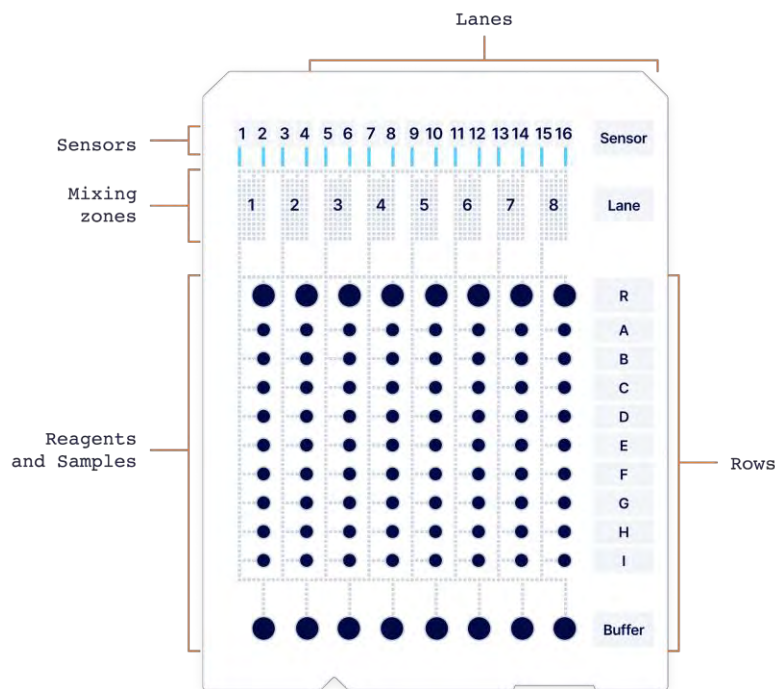

Figure 3.8: Alto cartridge design and zones.
1. **Sensors:** Each cartridge contains 16 sensors as shown in Figure 3.8. The sensors are available with different surface chemistries. The sensors are composed of 100nm gold nanoparticles coated onto the in-cartridge optical fibers used for SPR detection.